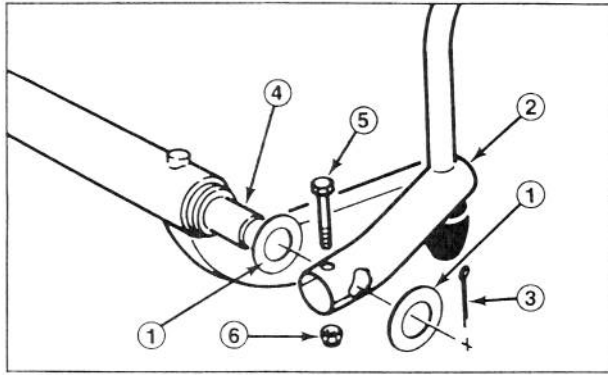

Figure 12
1. Install large thrust washer, tipper assembly, another washer and cotter pin on frame shaft (Fig. 12).
2. Insert a 5/16-18 x 2" lg. capscrew thru end of tipper bar and secure with a locknut. Tighten locknut only enough to clamp tipper bar in position but allowing tipper bar to be pivoted forward (Fig. 12).